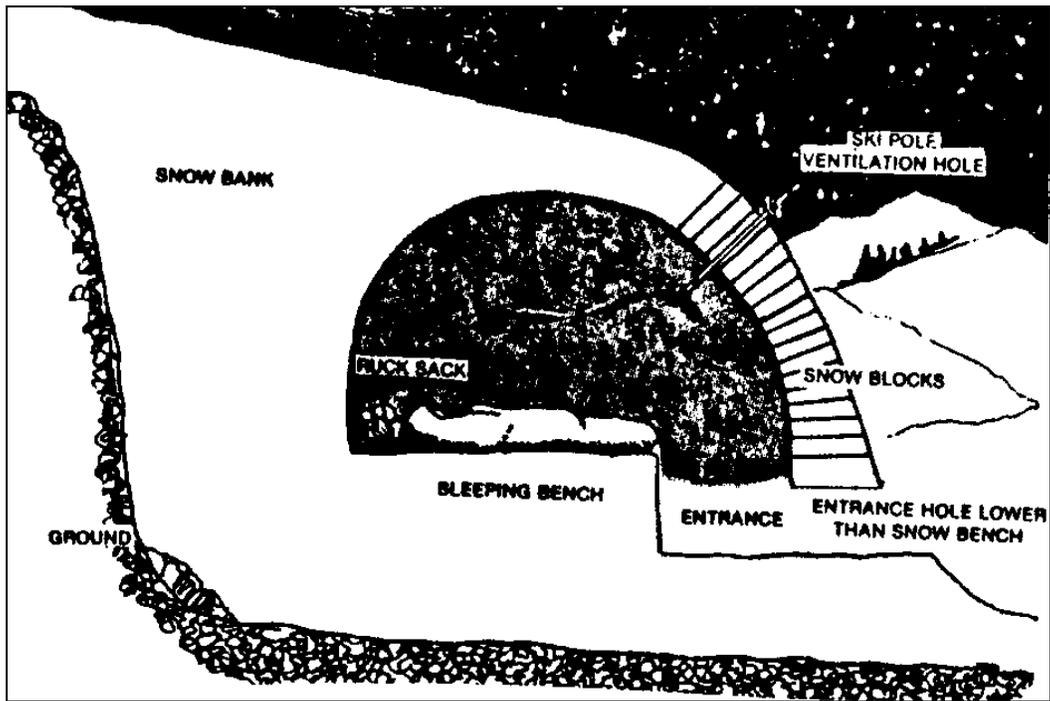

Figure 5: Block and Cave Method
(1) If the snow is easy to cut into blocks, the block and cave method should be used. The principles for deciding the internal layout are the same as for tunneling. Having decided on the total internal width of the snow hole, digging can proceed straight into the snowdrift all along the width. There is plenty of room to work and several men can work together while one man digs the entrance tunnel to the side of the main excavation.
(2) Once the snow hole is completed and the sleeping benches and stove position determined, the cave can be sealed with snow blocks. These are best cut during the last stages of excavation as the snow is usually more densely packed inside a drift. Using snow blocks from this area reduces the amount of snow moving. (See Figure 5)